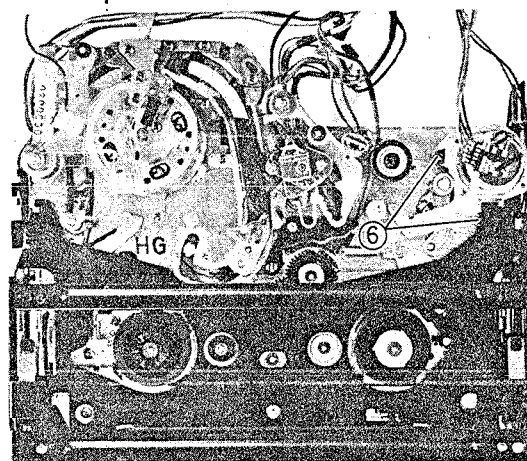

Fig. 2-86 Capstan Motor Removal
6. Remove two (2) screws holding the capstan motor holder. (See Fig. 2-86)
1. Remove the capstan motor holder. (See Fig. 2-86)